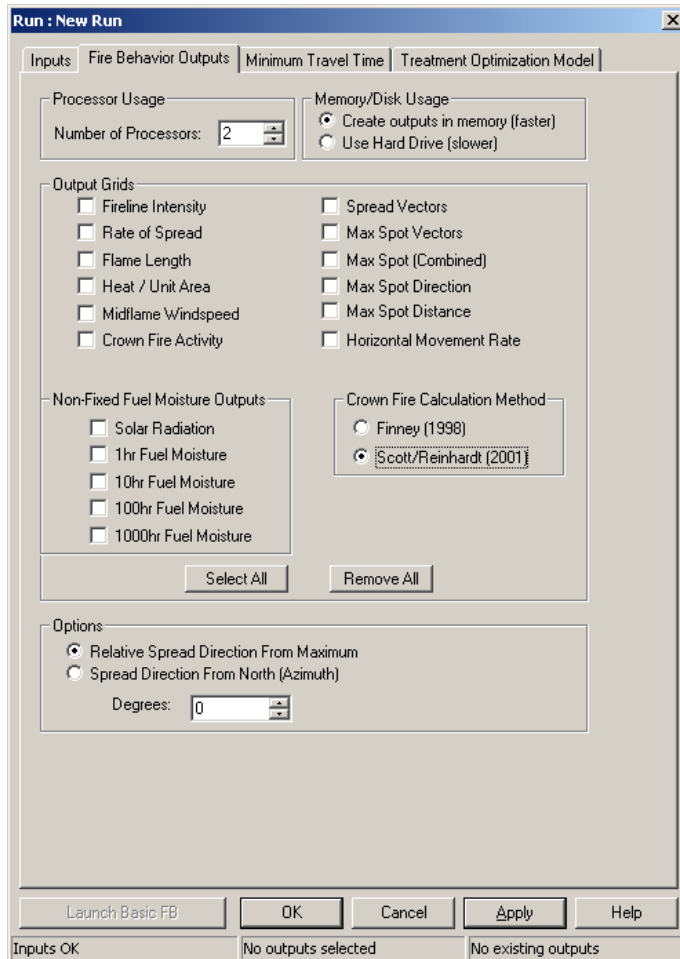

Figure 4-59—TOM fire behavior outputs options.
3) Select the **Fire Behavior Outputs** tab (fig. 4-59).